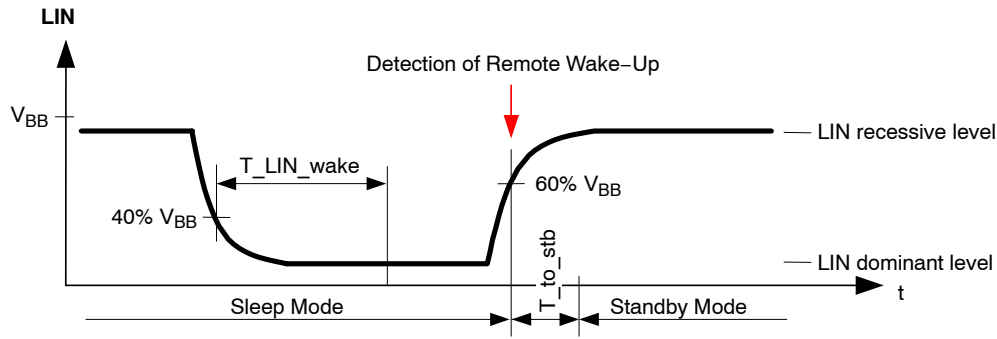

Figure 5. Remote (LIN) Wake-up Detection
- Remote (or LIN) wake-up – when LIN bus is externally driven dominant during longer than TLIN\_wake and a rising edge on LIN occurs afterwards – see Figure 5.